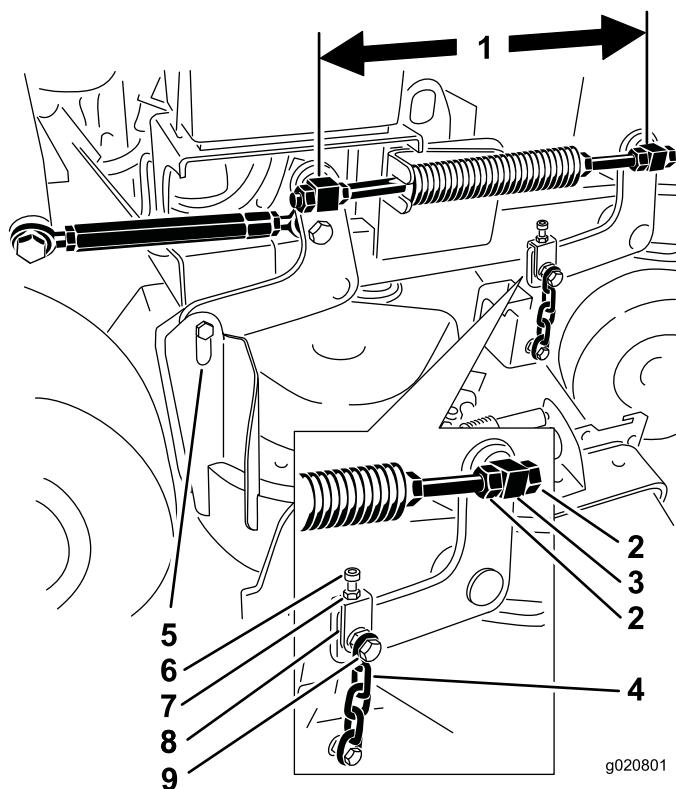

Figure 81
6. Check the distance between the swivels, measure at the center of the swivels (center-to-center length) on each threaded rod. Ensure the length is 49.5 cm (19-1/2 inches) for 91 cm (36 inch) mower decks and 43.7 cm (17-3/16 inches) for 102 cm (40 inch) mower decks (Figure 81).
11. If adjustment is needed, loosen the upper chain bolt (Figure 81).
6. Loosen the upper chain bolts (Figure 81).